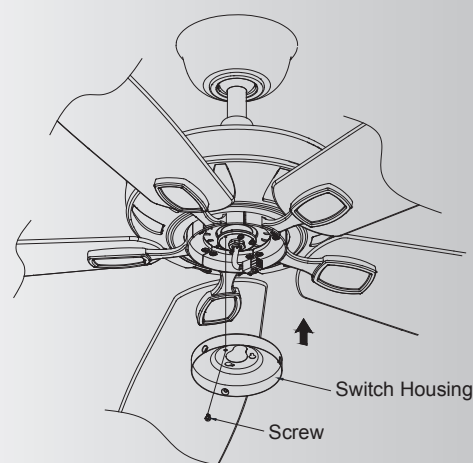

Fig. 18
Step 1. Remove the screw nearest the red dot label on the mounting ring and loosen the other two (do not remove). Let the 9-pin connector from motor body through the middle hole of switch housing. Align the two slot holes on the switch housing over the 2 screws previously loosened from the mounting ring. Turn the switch housing until it locks in place at the narrow end of the key holes. Securely tighten all three screws. (Fig. 18)